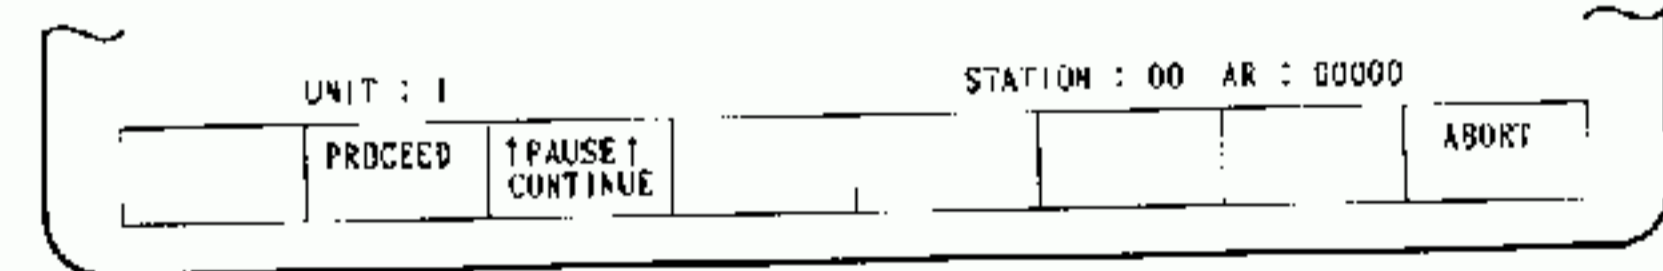

Fig. 5.1.110
2. If a miscomparison is found during a verification check, Fig.5.1.110 is displayed. If "PROCEED" is depressed, the verify operation is continued. If "ABORT" is depressed, the operation stops, and Fig.5.1.107 is displayed again.